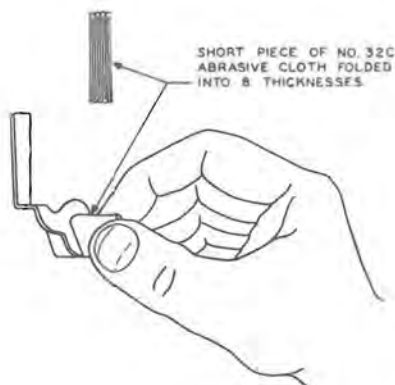

Fig. 64—Polishing of Fork Slot
- (1) Clean and lubricate fork and vane stem as follows:
- (a) Surfaces of fork slot should be smooth. If bearing surfaces of fork are so rough that they cannot readily be made smooth, replace relay; otherwise, smooth rough spots using No. 320 or finer abrasive cloth folded as shown in Fig. 64.